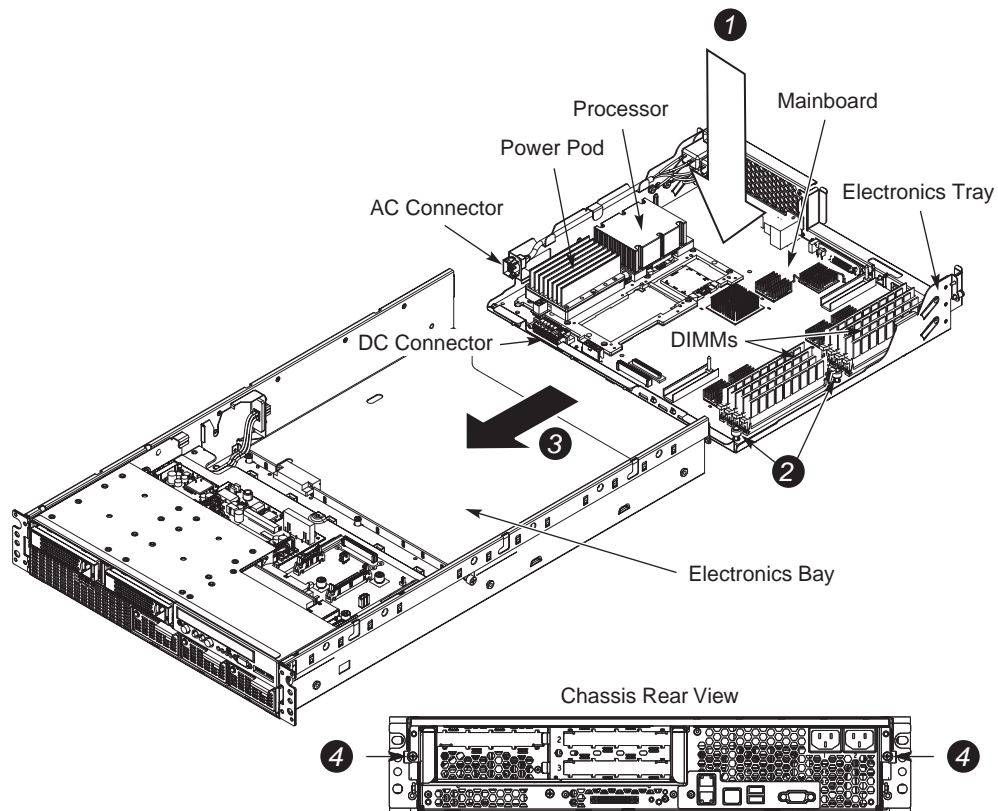

Figure 68. Installing the Main Board
2. Secure the main board to the tray by tightening the two captive Phillips-head screws near the DIMM sites on the main board. See number 2 in *Figure 68*.